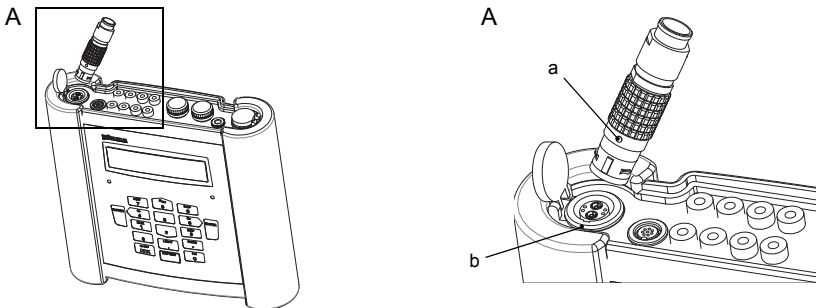

Fig. 6.6: Connection of the transducers
- Pull up the socket cover (see Fig. 6.6).